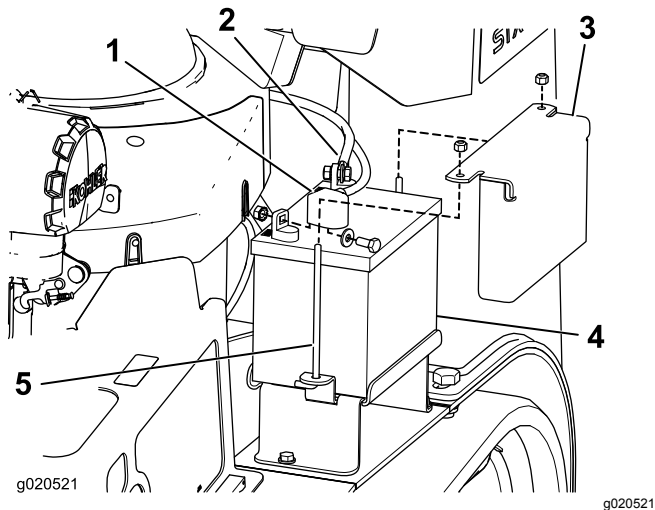

Figure 43
3. Lift the black rubber cover on the negative cable. Disconnect the negative battery cable from the negative (-) battery terminal (Figure 43).
4. Slide the red terminal boot off the positive (red) battery terminal. Then remove the positive (red) battery cable (Figure 43).
5. Remove the hold down plate, j-bolts, and locknuts securing the battery (Figure 43) and remove the battery.